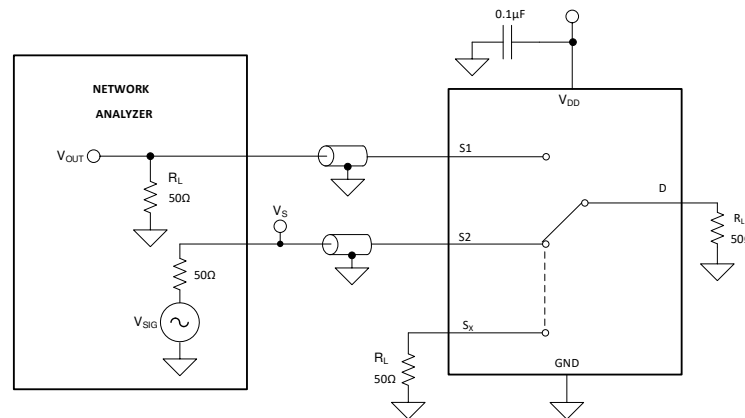

图 6-9. Crosstalk Measurement Setup
Crosstalk is defined as the ratio of the signal at the drain pin (D) of a different channel, when a signal is applied at the source pin (S_x) of an on-channel. 图 6-9 shows the setup used to measure, and the equation used to calculate crosstalk.